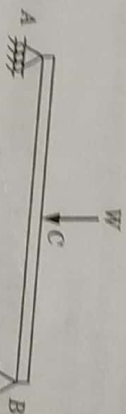

Fig. 25.6
**Concentrated Load.** A concentrated load is one which is assumed to act at a point. (Fig. 25.6).